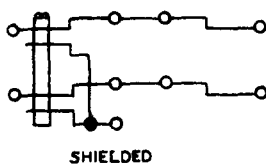

Fig. 5—305A or B Plug
2.04 305A and B: The 305A and B (Fig. 5) are shielded, twin, double-conductor plugs with common sleeve connections. The 305A and B plugs are used with the 230-, 410-, or similar-type jacks.